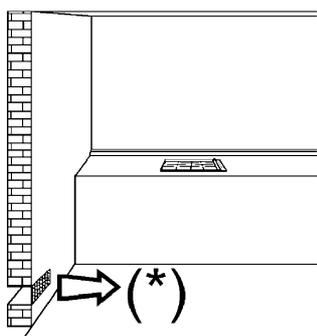
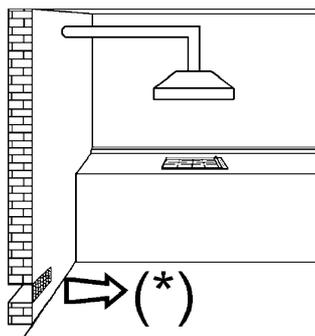
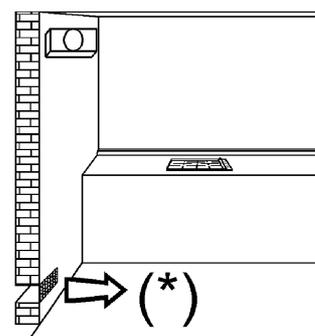

FIG. 3
FIG. 4
FIG. 5
- *Use of a gas cooking appliance produces heat and moisture in the room in which it is installed. The room must therefore be well ventilated by keeping the natural air vents clear (see fig. 3) and by activating the mechanical aeration device (suction hood or electric fan fig. 4 and fig. 5).*
It is essential to ensure that the room in which the appliance is installed is permanently ventilated in order to allow the appliance itself to operate correctly. The necessary amount of air is that required for regular gas combustion and ventilation of the relative room, the volume of which must not be less than 20 m³. Air must naturally flow through permanent openings in the walls of the room in question. These openings must vent the fumes outdoors and their section must be at least 100 cm² (see fig. 3). Construction of the openings must ensure that the openings themselves may never be blocked. Indirect ventilation by air drawn from an adjacent room is also permitted, in strict compliance with the provisions in force.
Gas cooking appliances must always dispose of their combustion fumes through hoods. These must be connected to flues, chimneys or straight outside. If it is not possible to install a hood, an electric fan can be installed on a window or on a wall facing outside (see fig. 4). This must be activated at the same time as the appliance (see fig. 5), so long as the specifications in the provisions in force are strictly complied with.